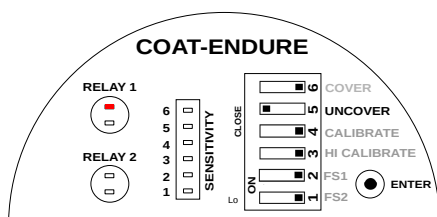

Figure 21: Uncover Switch Position
- Set the UNCOVER switch to CLOSE (Opposite of OPEN in a DIP switch) position as shown in Figure 21.